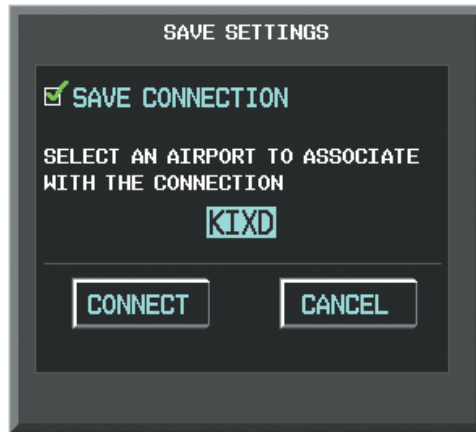

Figure 8-119 Save Connection
- a) Press the **ENT** Key. A checkmark is placed in the checkbox and the cursor moves to the airport field as shown in Figure 8-119.